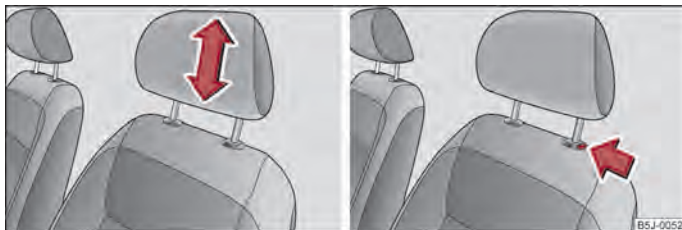

Fig. 35 Head restraint: Adjusting/pulling out
- Grasp the side of the head restraint with both hands and push it in upward direction as desired => fig. 35 - left.
- Move the head restraint downwards if required by pressing and holding the safety button with one hand => fig. 35 - right and by pressing with the other hand the head restraint downwards.
- Press the locking button in the direction of arrow => fig. 35 - right and pull the head restraint out.